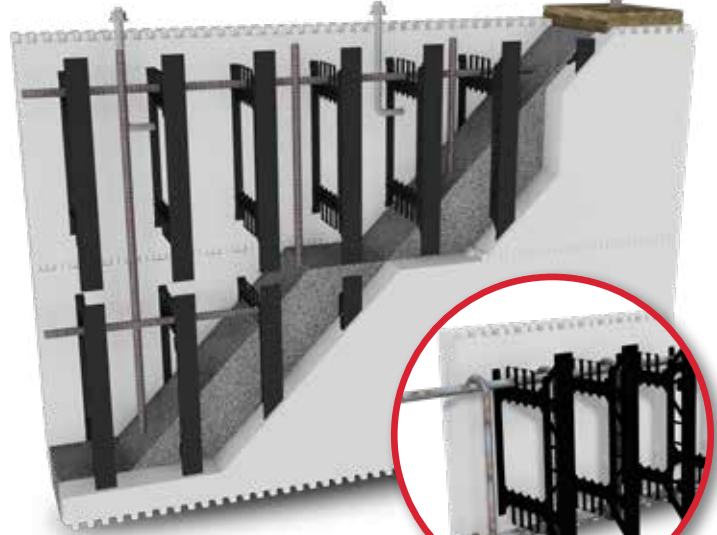

Figure 1
**FIGURE 1.** BuildBlock ICF wall section cutaway showing horizontal and vertical steel placement, alternating rebar placement to hold vertical rebar, J-bolts mounted in the concrete and a wooden top plate.